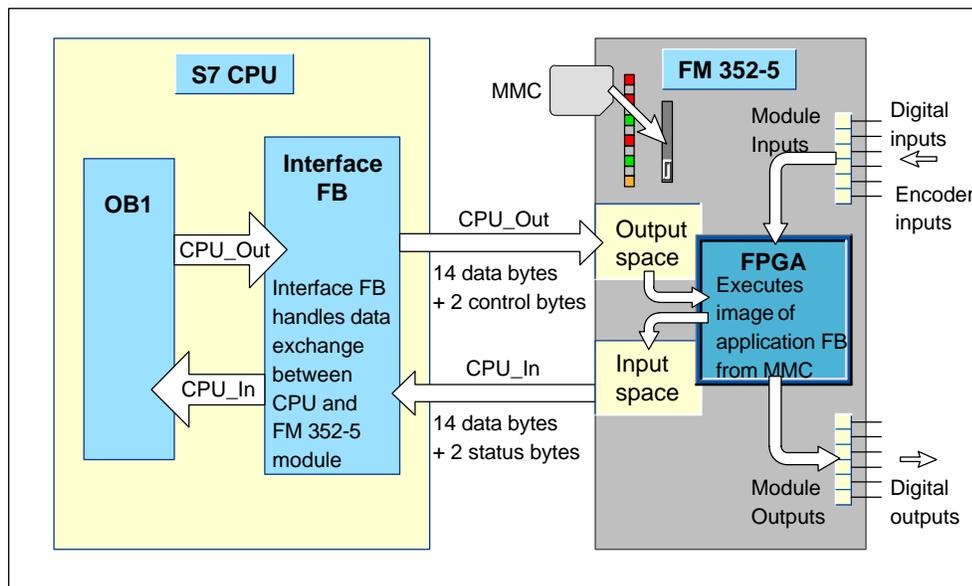

Figure 1-1 FM 352-5 Operation in Coprocessor Configuration
- The FM 352-5 module can operate in a coprocessor configuration within an S7 programmable controller system. In this configuration, the FM 352-5 exchanges input/output data, and status and control information with the master CPU, as shown in Figure 1-1.
- Data exchange with the CPU user program (when used in a coprocessor configuration). The S7 CPU has access to 16 bytes of input and 16 bytes of output data to permit transfer of control information, count values, counter preset values, and status information using a special Interface FB (Function Block) to coordinate the data exchange (see Figure 1-1).